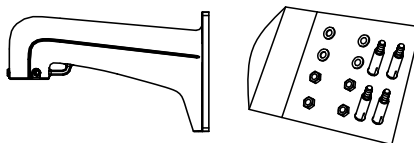

Figure 2-4 Wall Mounting Bracket
- The bracket in Figure 2-4 is the recommended bracket for this series of speed dome, and a pendent adapter is required if any other bracket is selected. The dimension of pendant adapter is $G1\frac{1}{2}$.
- 1) Get the bracket and screws from the packing box as shown in Figure 2-4.